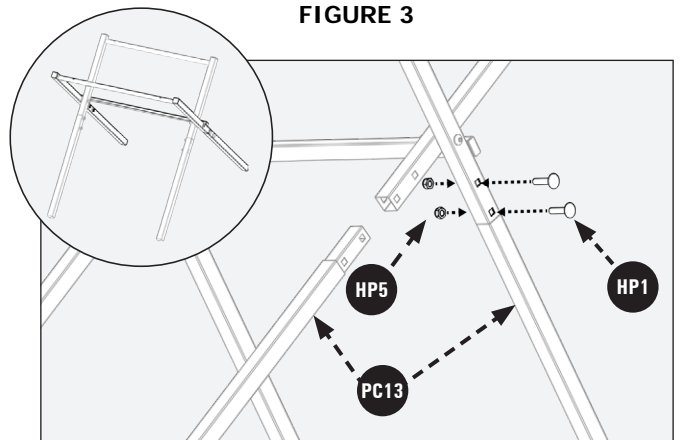

FIGURE 4
4. Turn stand upside down to attach legs. With assembled stand open, attach legs (PC13) to the stand using (8) M8 x 30mm (1 3/16 inch) Carriage Bolts (HP1) and (8) M8 lock nuts (HP5). Tighten lock nuts to secure legs to stand Figure 4, using 13mm (1/2 inch) wrench.
**NOTE:** Do not over tighten lock nuts. See finished assembly of stand in Figure 4.